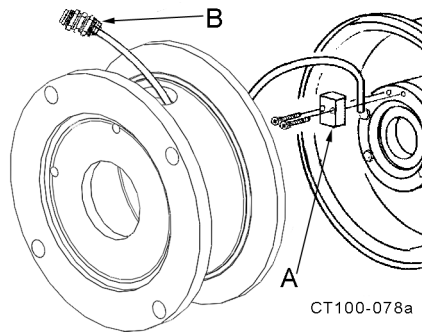

Figure 19 - Cascade System Installation
When this option is ordered, a fitting assembly (Figure 19, item A) is supplied for directing a flow of water onto the backplate/seal area.
- The connection (Figure 19, item B) is 1/4 inch O.D. tubing.